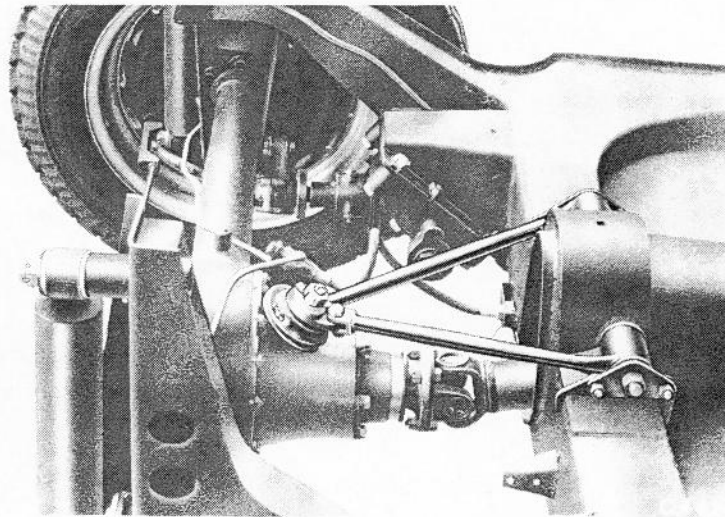

Fig. 20 Attachment unit.
6. Referring to Fig. 20, detach the attachment unit from the ball and socket joint on the differential gearbox housing and position it so that it is out of the way.
4. Unscrew and remove the two  $\frac{5}{16}$  in. B.S.F. bolts, nuts and shake-proof washers and triangular washer plate from each side, see Fig. 20.